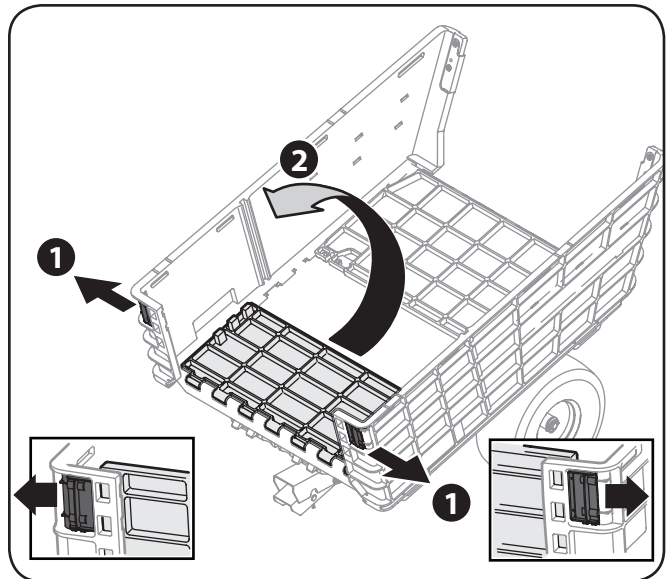

Figure 3-6
- With both sides now raised, lift the front panel up and insert the front panel into the side panels pull outward on the tabs until they click into place. See Figure 3-6.